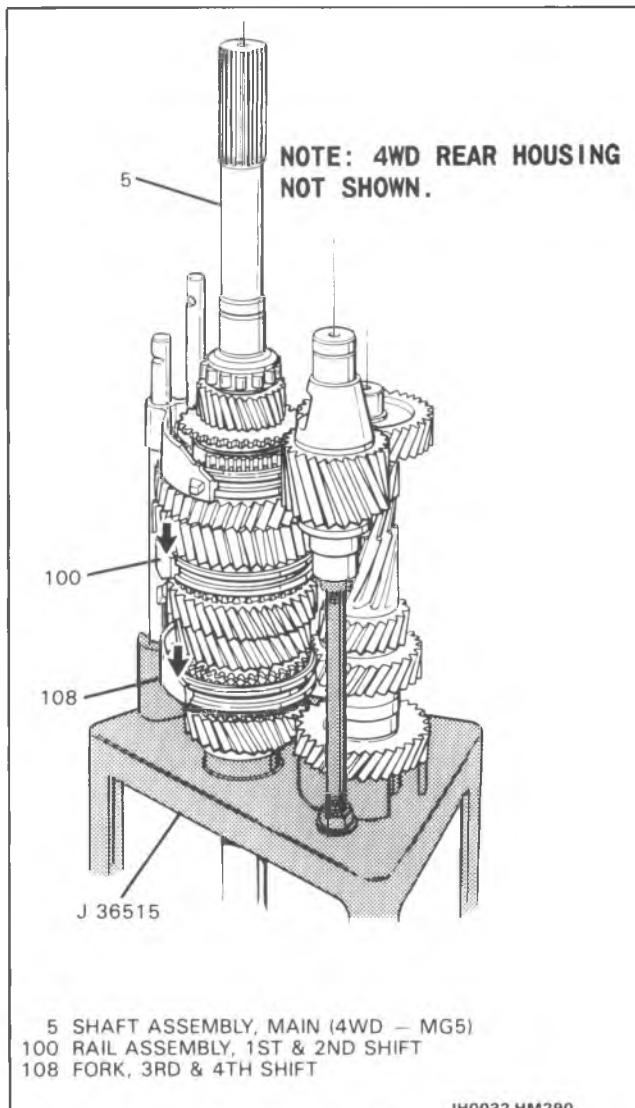

Figure 22 Locking Up Transmission
- Lock up the transmission in 2nd and 4th gear by sliding the 1st and 2nd Shift rail assembly (100) and the 3rd and 4th shift fork (108) downward towards J 36515 (Figure 22).